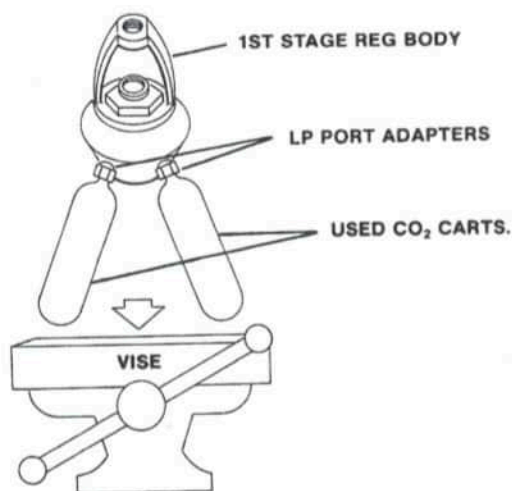

Figure 2
- Screw a pair of old, discharged CO₂ cartridges into a pair of low-pressure port adaptors. Screw these adaptor assemblies into a pair of adjacent low-pressure ports on the first stage body. Mount the first stage regulator in a bench vise by means of the CO₂ cartridges (a pair of steel rods threaded 1/2-20 UNF may also be used instead of the CO₂ cartridges). See Figure 2.